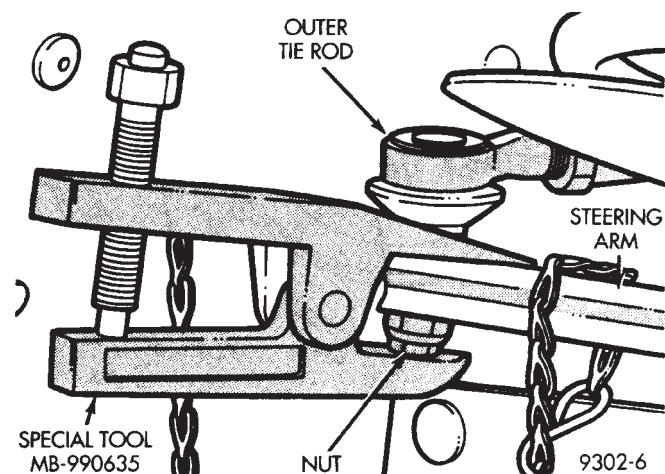

Fig. 2 Removing Outer Tie Rod From Steering Arm
(4) Loosen but do not remove the outer tie rod end to strut assembly steering arm attaching nut (Fig. 2). Then remove outer tie rod end from steering arm using Puller, Special Tool MB-990635 or equivalent (Fig. 2).